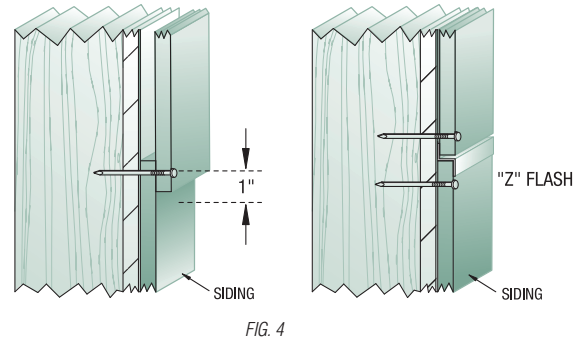

FIG. 4
- Although not recommended, where 24" o.c. vertical framing is used, wood-based sheathing is required. Follow product specific nailing pattern (*see Fig 4*) and nail to framing 24 o.c. with intermediate nailing 12" o.c. to sheathing.
- At horizontal joints with stacked panels or other types of siding, overlap siding 1" or use Z flashing and fasten as shown. See Fig 4.